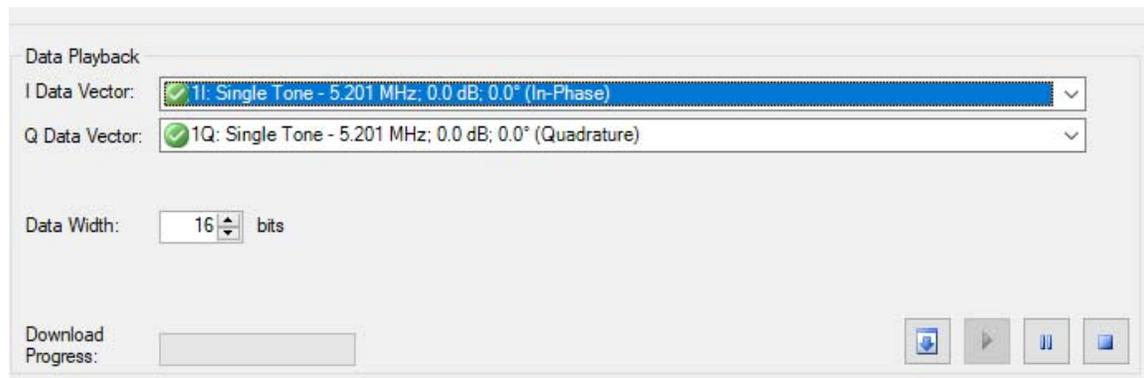

Figure 30. Loading DPG2 Vectors
11. In the **Data Playback** panel (see Figure 30), select the **I1: Single Tone - 5.201 MHz; 0.0 dB; 0.0° (In-Phase)** option from the **I Data Vector** dropdown menu.
12. Select the **1Q: Single Tone - 5.201 MHz; 0.0 dB; 0.0° (Quadrature)** option from the **Q Data Vector** dropdown menu (see Figure 30).
13. Click the **Download** button (⏴) in the lower right of the **Data Playback** panel (see Figure 30).
14. Click the **Play** button (▶), located to the left of the **Download** button (see Figure 30), to begin vector playback.